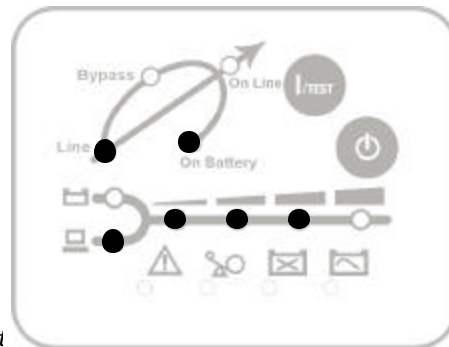

Fig. 3.5 UPS self test
Press the 'I/TEST' button (1) when the UPS is in 'ON LINE' mode. The UPS will shift to 'ON BATTERY' mode and automatically perform a self-test for about 10 seconds (as in fig. 3.5). The self-test function will check the condition of the battery. After self-test is finished and test is O.K., the UPS will return to 'ON LINE' mode.